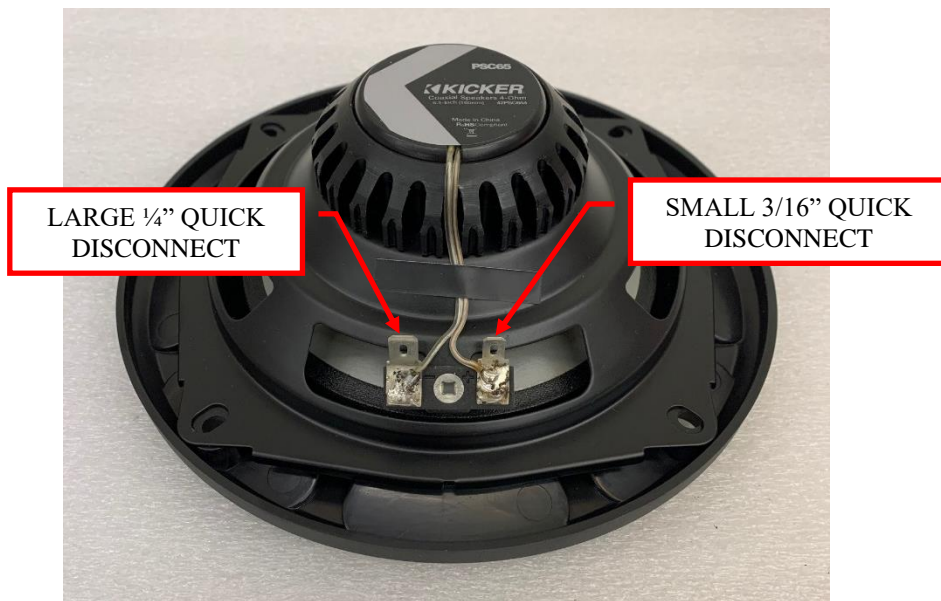

Figure 10: Speaker wire orientation.
10. Re-install the speakers. Be sure to place the large quick disconnect on the 1/4" speaker tab and the small quick disconnect on the 3/16" speaker tab. Re-use the Philips head screws you removed previously. Do not over torque the speaker screws with an impact driver (hand tighten only). See Figure 10.